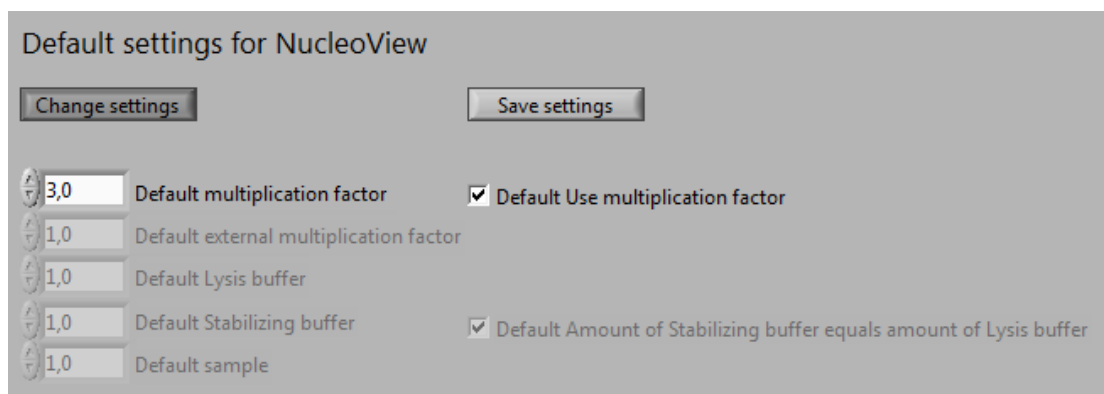

Figure 37 Customized default settings for NucleoView.
NucleoView offers the possibility to change the default settings used when data is transferred from a NucleoCounter. See figure 37 for the settings it is possible to change.
1. To change the default settings click the "Change settings" button. This will activate a dialogue as shown in figure 37.
When NucleoView is restarted, the settings shown in Figure 37 will revert to the factory set default values.